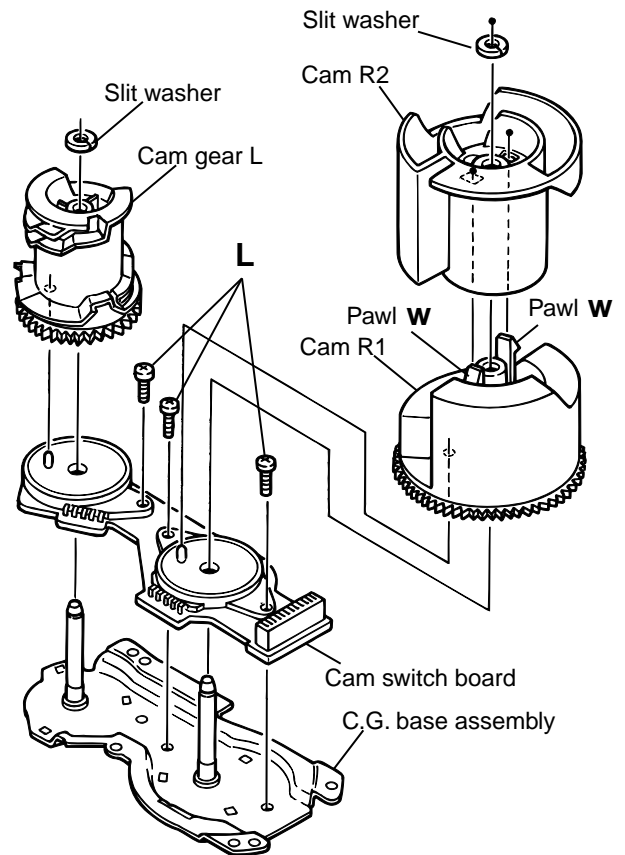

Fig.22
[Note] When the chassis assembly is turned over under the conditions wherein the gear bracket and belt have been removed, then the pulley gear as well as the gear, etc. constituting the gear unit can possibly be separated to pieces. In such a case, assemble these parts by referring to the assembly and configuration diagram in Fig. 22.
■ Removing the cams R1/R2 assembly and cam gear q(See Fig.22)
■ Removing the C.G. base assembly (See Fig.22 and 23)